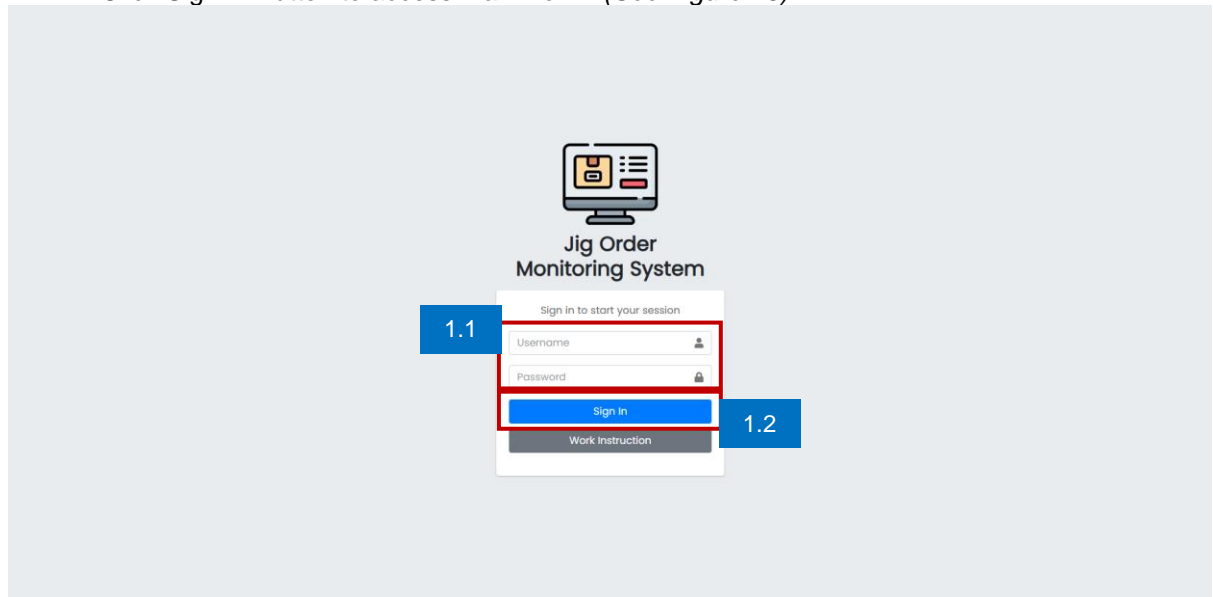

Figure 23. Login Page
1.1 Enter Username and Password. (See Figure 23)
1.2 Click Sign In Button to access Main Form. (See Figure 23)